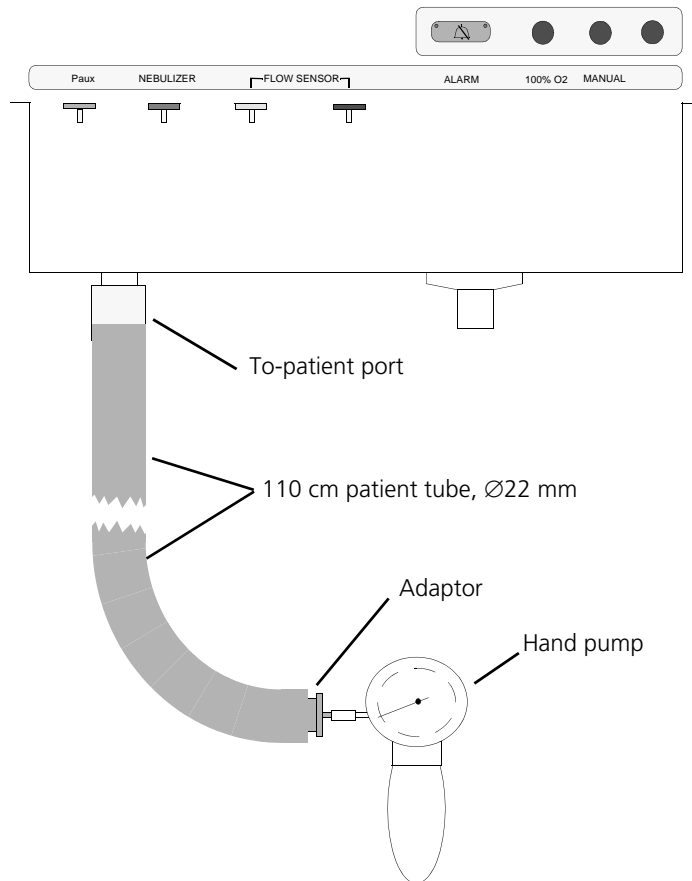

Figure 10-33. Setup for the safety-valve-block airtightness and patient overpressure-valve checks
1. Connect the tubing system as shown on Figure 10-33.
1. Using the setup for the safety-valve-block airtightness check (Figure 10-33 on page 10-70), simulate an overpressure by continuously pumping the hand pump.